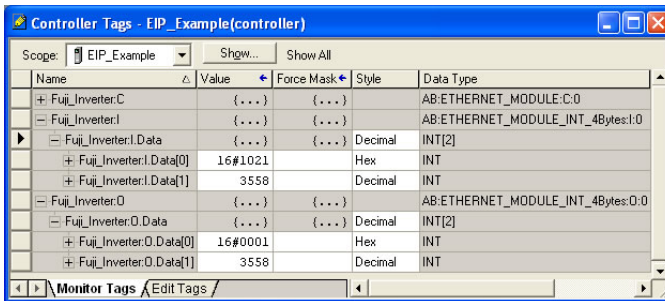

Figure 85: Controller Tags for I/O Access
- 8) By double-clicking “Controller Tags” in the project tree, it is possible to view the newly-added tags. Refer to Figure 85. The Fuji\_Inverter:C configuration tag is unused, the Fuji\_Inverter:I tag allows viewing of the input data, and the Fuji\_Inverter:O tag allows modification of the output data. These tags will be synchronized with the inverter at whatever rate was established for the module's RPI.
We can directly interact with these tags in order to control and monitor the inverter. In Figure 85, for example, we can see that the first 16-bit word of output data (Fuji\_Inverter.O.Data[0]) has been set to a hexadecimal value of 0x0001. Referring back to Figure 37, we can see that the first element of the consumed register configuration references register 1799, which is the inverter's operation command register. A value of 0x0001, therefore, means that the FWD (run forward) bit has been turned ON.